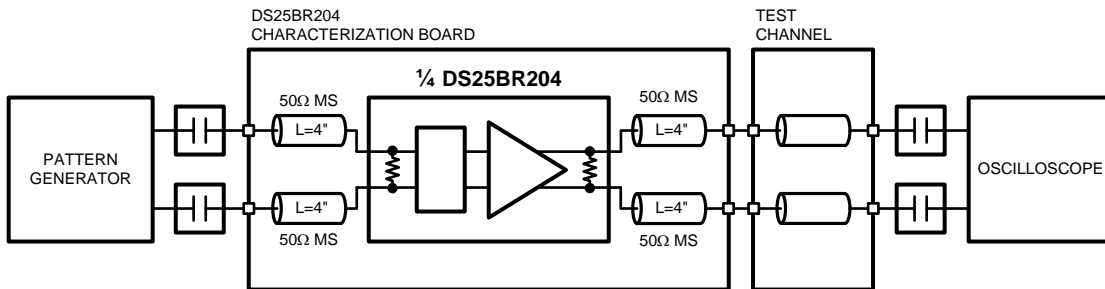
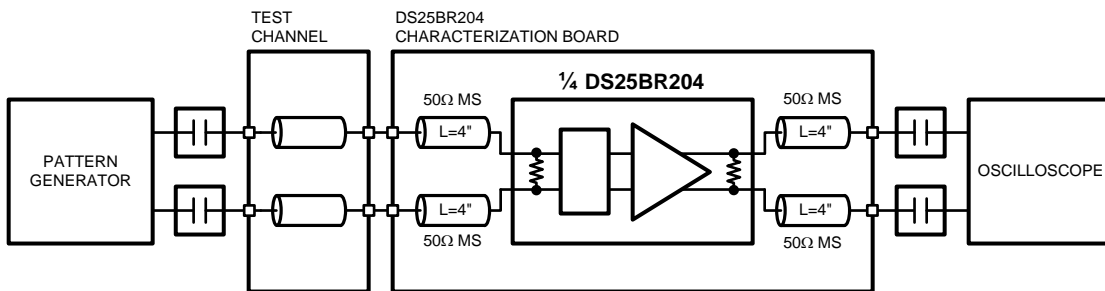
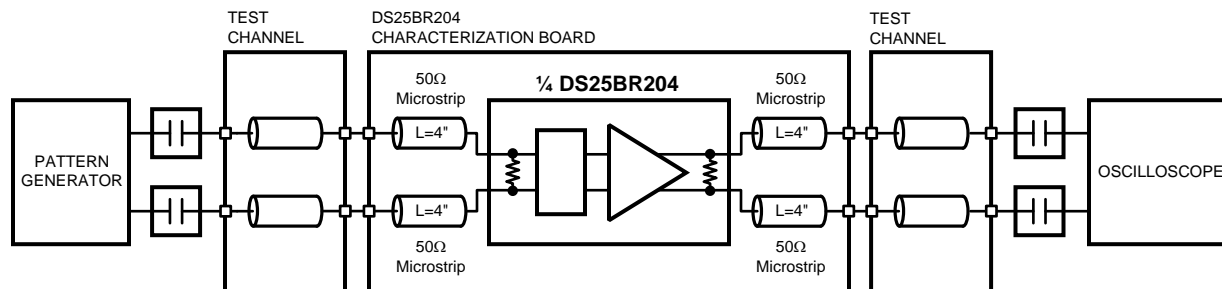
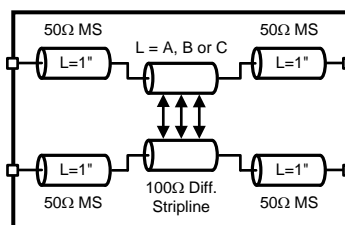

Figure 6. Pre-emphasis Performance Test Circuit
Figure 7. Equalization Performance Test Circuit
Figure 8. Pre-Emphasis and Equalization Performance Test Circuit
Figure 9. Test Channel Block Diagram
JITTER PERFORMANCE WITH EQ = Off, PE = On (3) (Figure 6, Figure 9)
JITTER PERFORMANCE WITH EQ = On, PE = Off (3) (Figure 7, Figure 9)
JITTER PERFORMANCE WITH EQ = On, PE = On (3)(Figure 8, Figure 9)